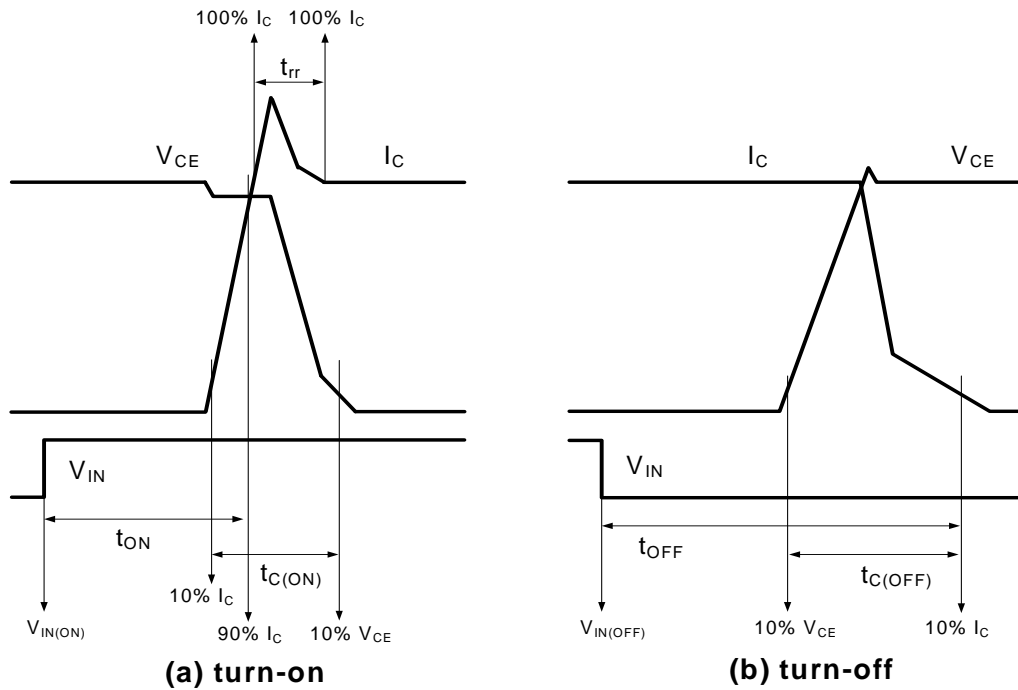

Figure 4. Switching Time Definition
3.  $t_{ON}$  and  $t_{OFF}$  include the propagation delay of the internal drive IC.  $t_{C(ON)}$  and  $t_{C(OFF)}$  are the switching time of IGBT itself under the given gate driving condition internally. For the detailed information, please see Figure 4.